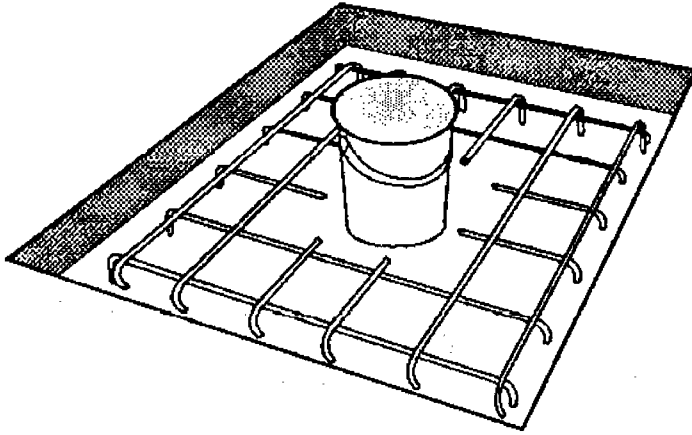

Figure 11. Making a squat hole
- Put an old bucket with a bottom about 200 millimetres across or a template in the shape of a keyhole in the hole in the grid (see Figure 11).